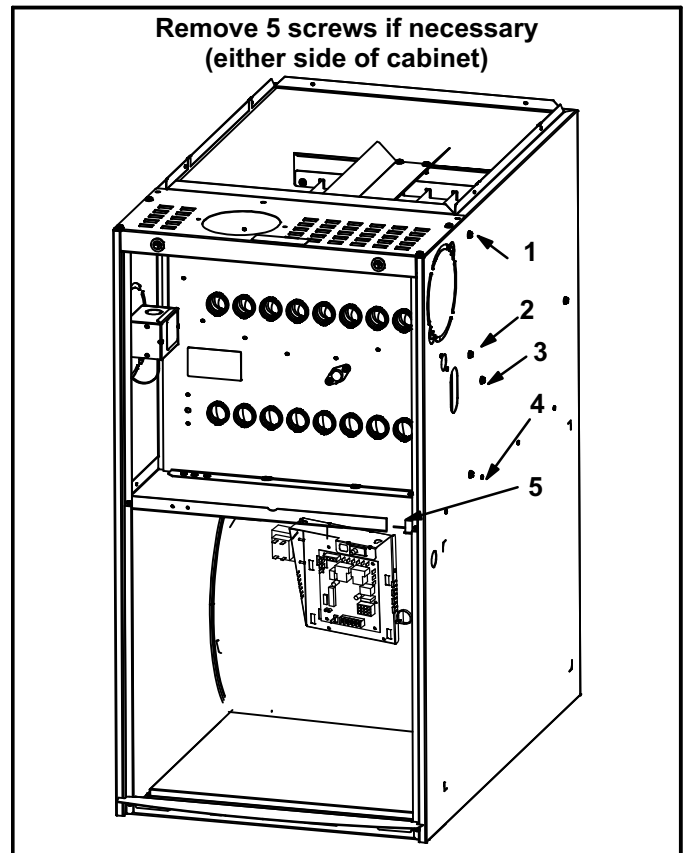

FIGURE 39
- 10 - Remove heat exchanger. It may be necessary to spread cabinet side to allow more room. If so, remove five screws from the left side or right side of cabinet. See figure 39.